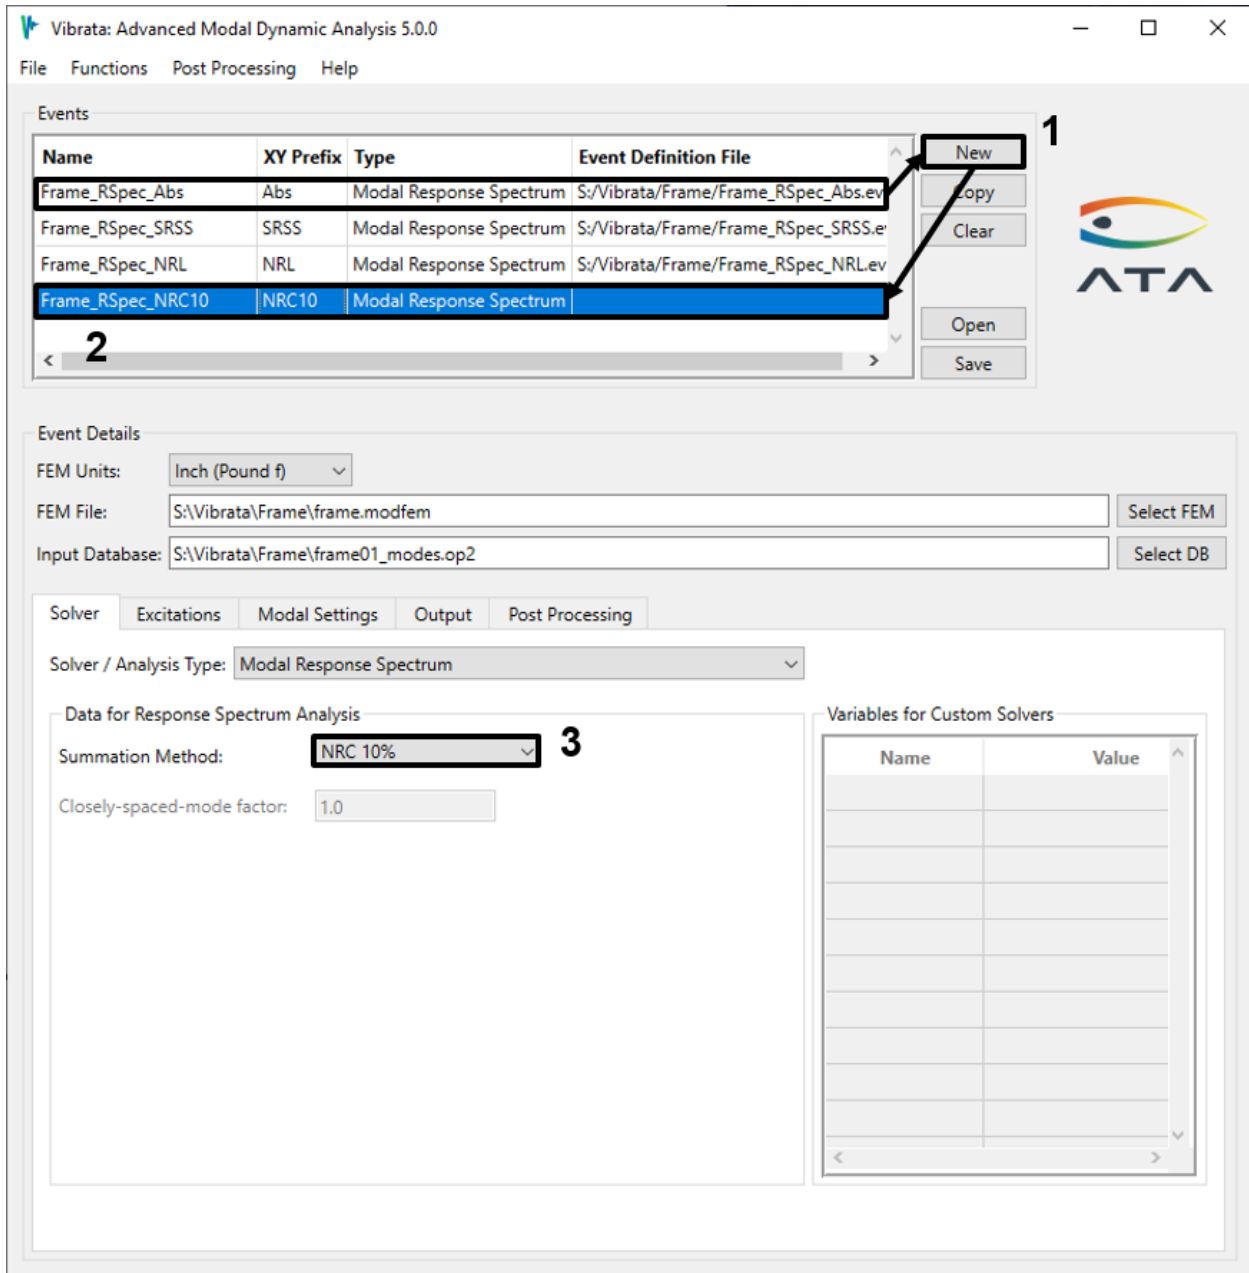

Figure 4-85. Copy again to create a fourth event using NRC summation.
- Copy the first event again and change the summation type to *NRC 10%* (Figure 4-85). This should identify the same modes as closely spaced as in the NRL example above. Solve this event.